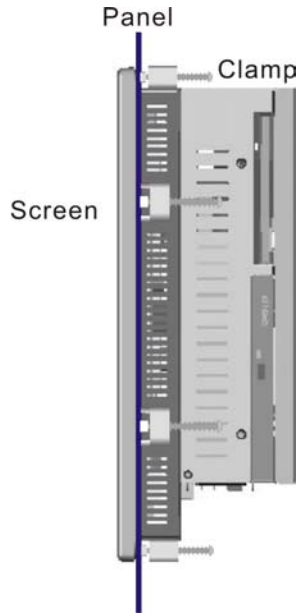

Figure 3-16: Tighten the Panel Mounting Clamp Screws
- Step 5:** Tighten the screws that pass through the panel mounting clamps until the plastic caps at the front of all the screws are firmly secured to the panel (**Figure 3-16**).